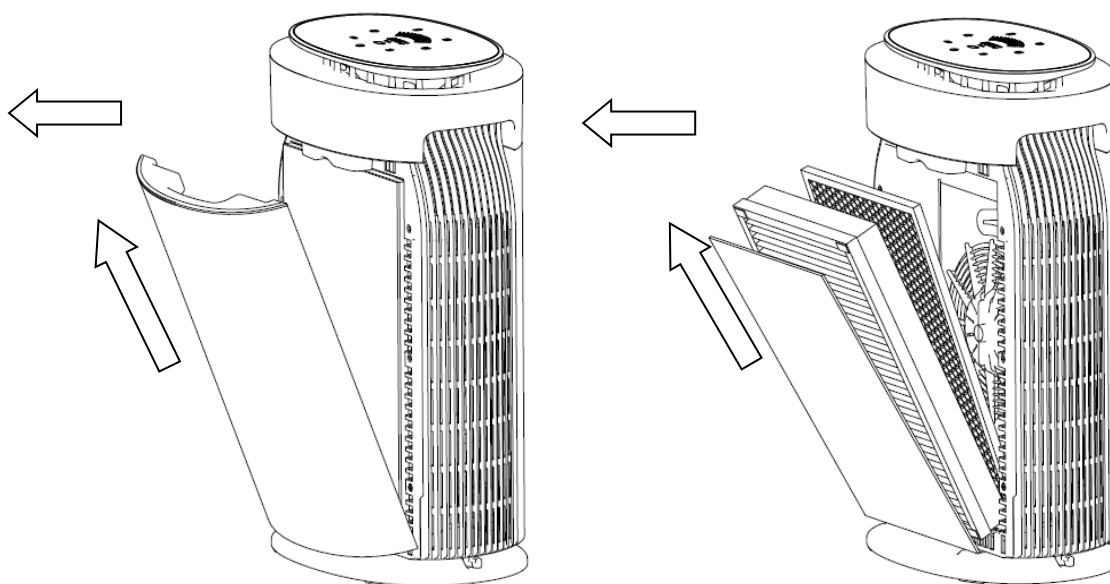

Figure 2
3. Remove the filter in the direction of the arrow and remove the filter bag. (See figure 2)